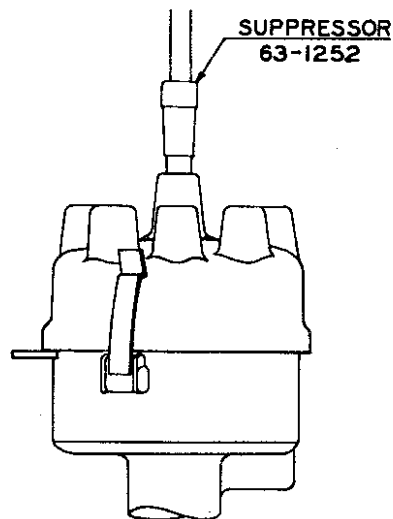

Fig. 5
2. Install suppressor No. 63-1252 in center of hole of distributor cap. Place high tension lead in top of suppressor. Be sure the suppressor and the lead are fastened securely. (Fig. 5.)